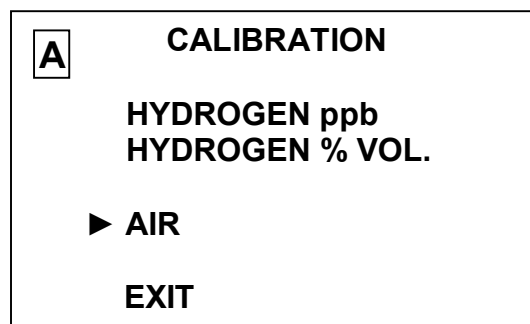

Fig. 2.5
- 2 Set pointer against **CALIBRATION** line and press the "menu enter" button. The analyzer goes to the **CALIBRATION** menu. Display shown in Fig. 2.5 comes on.
- 2 Set the pointer against the **CALIBRATION** line and press the "^{menu}enter" button. The analyzer will go to the **CALIBRATION** menu and display shown in Fig. 2.5 will come on.